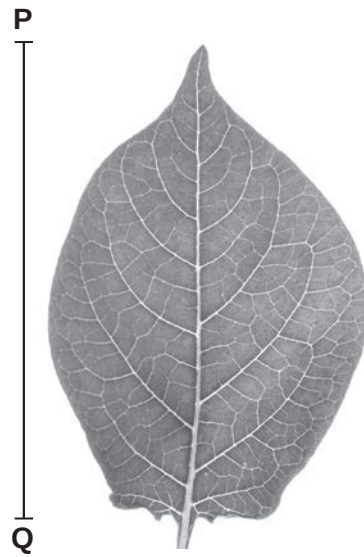

Fig. 1.5
(c) Fig. 1.5 shows a leaf from a potato plant.
(i) Draw a large diagram of the leaf shown in Fig. 1.5.
- (ii) Line **PQ** represents the length of the leaf in Fig. 1.5.
Measure the length of line **PQ** in Fig. 1.5.
Using your measurement and the formula, calculate the magnification of the leaf in Fig. 1.5.
$$\text{magnification} = \frac{\text{length of line PQ in Fig. 1.5}}{\text{actual length of the leaf}}$$
- (iii) Fig. 1.6 shows a leaf from a tomato plant. The tomato leaf is narrower than the potato leaf shown in Fig. 1.5.
Compare the leaves shown in Fig. 1.5 and in Fig. 1.6.